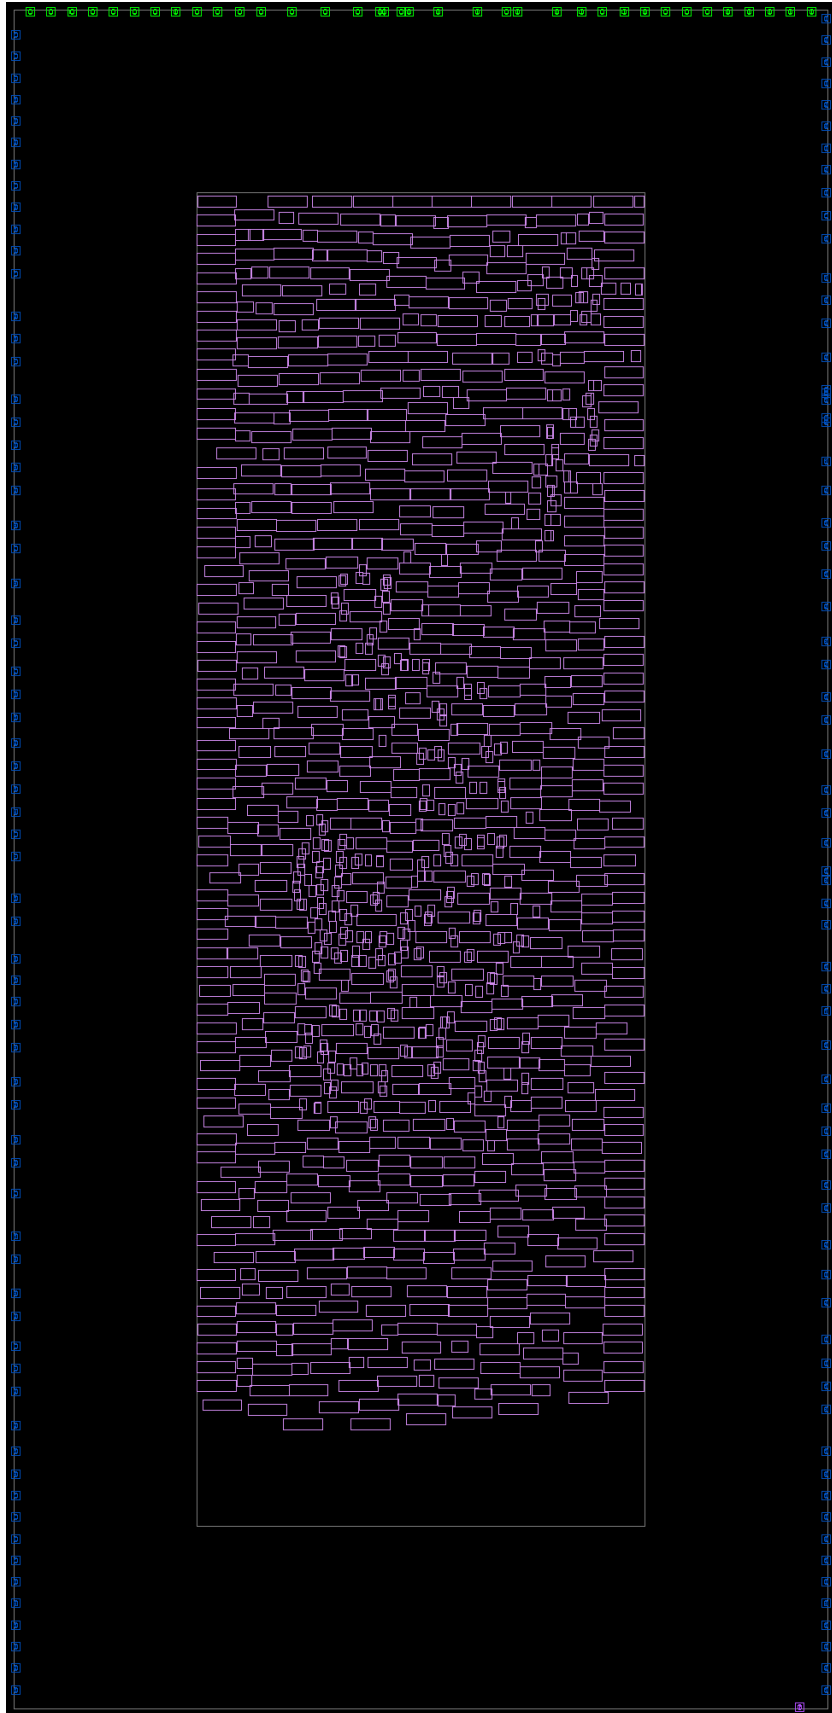

Figure 4.4: Automatic floorplan with individual pin constraints on clk.
4. A single (clk) pin appears on the bottom edge of the chip (Fig. 4.4)